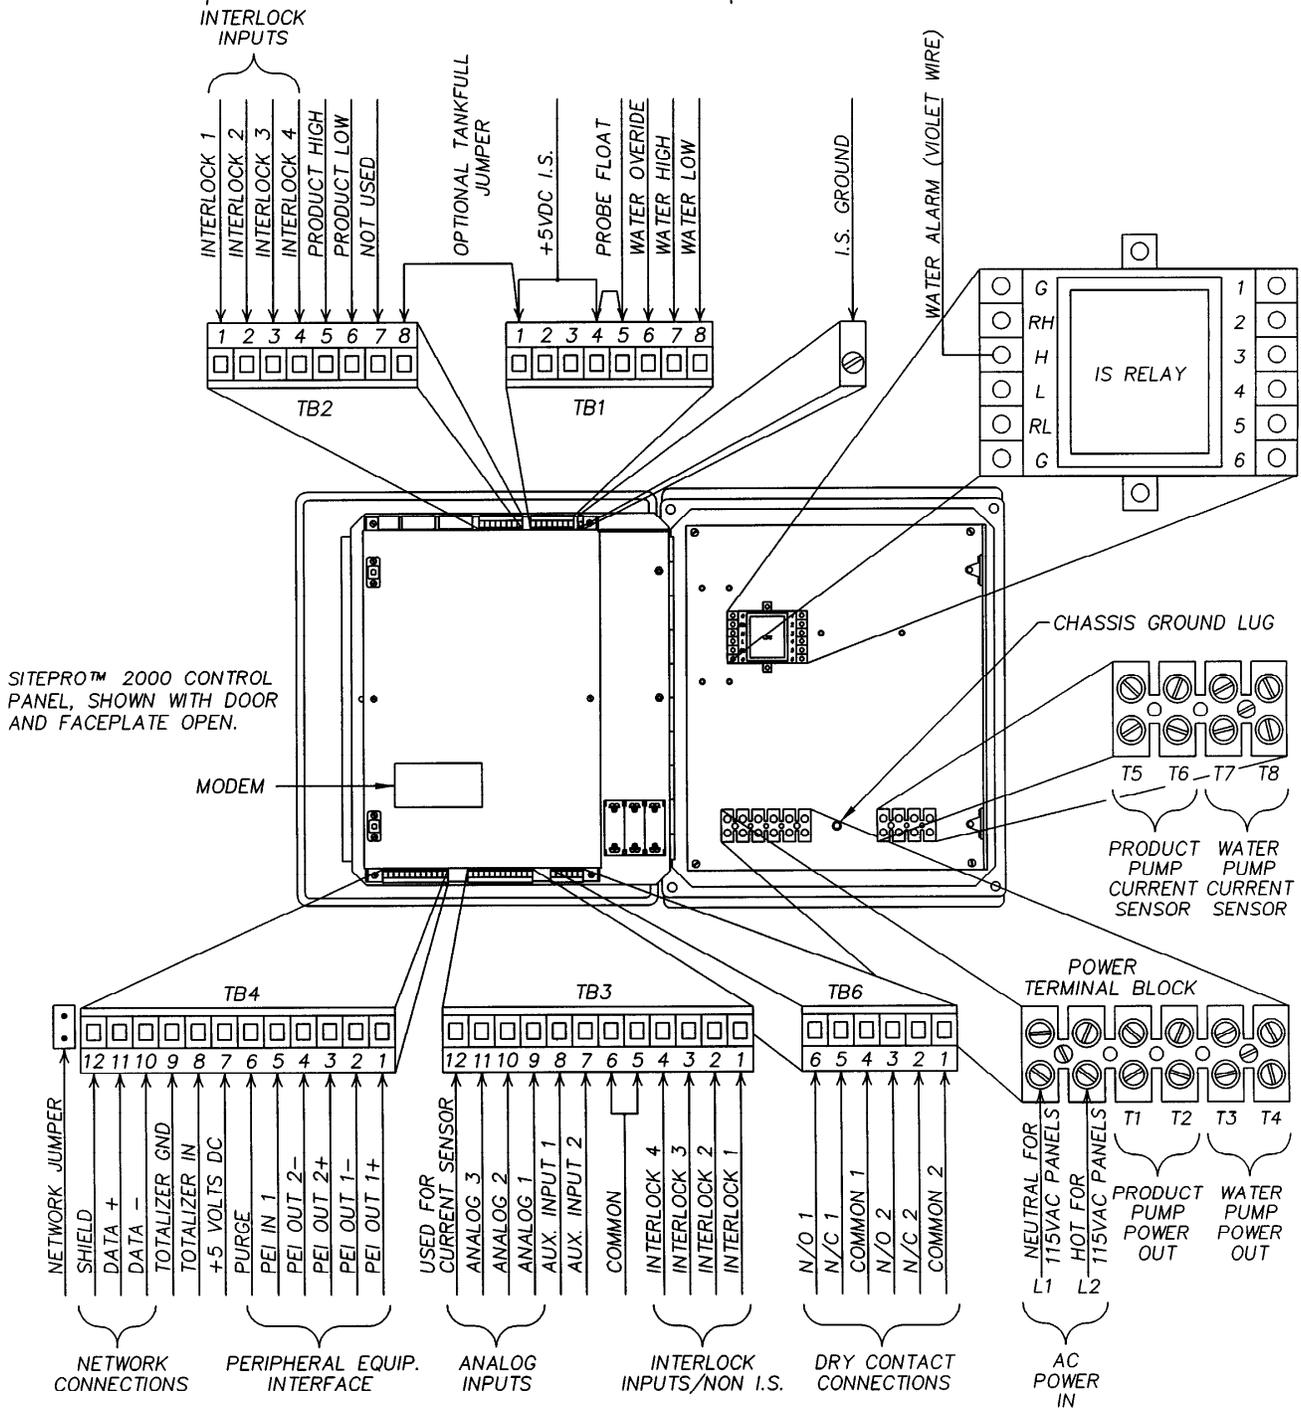

Figure 8
Before beginning panel hookup procedures, run a wire from the panel chassis ground lug to a good earth ground such as the circuit breaker panel enclosure. The ground lug is located on the chassis behind the panel faceplate (See the ORS SITEPRO™ 2000 wiring diagram in figure 8).
Run power wires through the port at the bottom of the enclosure and attach to the terminal block on the chassis behind the faceplate (figure 8). Attach the power leads to terminals L1 and L2. In 115VAC systems, wire power leads to the “HOT” and “NEUTRAL” terminals as shown in figure 8. Attach the ground wire to the grounding lug next to the terminal block. Check tightness of terminal screws.
The ORS SITEPRO™ 2000 circuit board shield (behind faceplate) is equipped with a label that shows the locations of all terminals and configuration dip switches. Refer to this label (and figure 8) throughout the panel wiring procedures described in this chapter.
Do not run power wires within two inches of ***intrinsically safe*** (IS) wires or terminals. Refer to figure 8 for location of IS terminals (at top of panel), and reference ***NEC*** Article 508 for relevant codes.
Run the pump power wires through the port at the bottom of the enclosure and attach to the PUMP POWER OUT terminals (figure 8). Attach the ground wire to the chassis grounding lug next to the terminal block. Check tightness of terminal screws. For wiring instructions specific to your pump and blower, refer to the blueprint Field Wiring Diagram these items.
Run the blower power wires through the port at the bottom of the enclosure and attach to the BLOWER POWER OUT terminals (figure 8). Attach the ground wire to the chassis grounding lug next to the terminal block. Check tightness of terminal screws. For wiring instructions specific to your pump and blower, refer to the blueprint sized Field Wiring Diagram provided with these items.